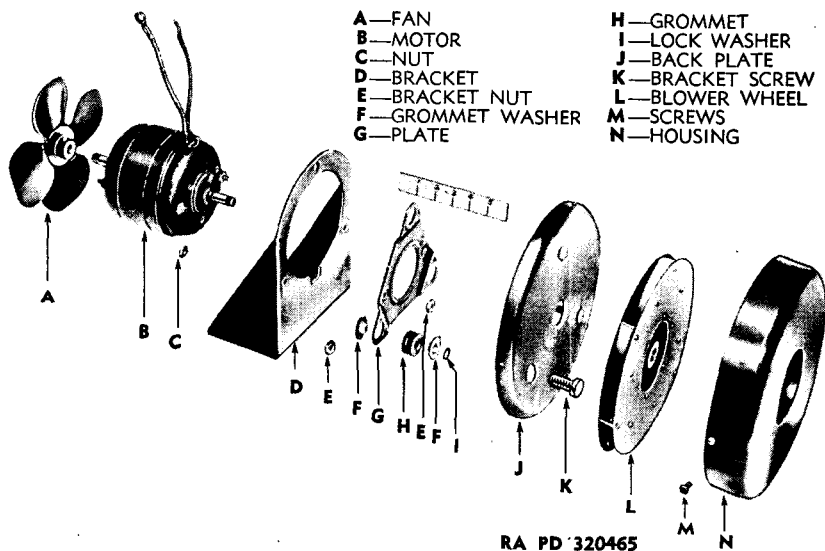

Figure 51 — Blower Assembly Partially Disassembled
b. Heater Tube Assembly (Combustion) (fig. 49). After motor inspection, install motor mounting plate to motor with two nuts (ground wire is connected under one of these). Install motor assembly to base mounting plate, checking with figure 51 to get correct relation of parts. Install blower fan (with open face out) onto motor shaft against mounting plate. Tighten set screw in hub so that fan clears plate. Install blower housing with three screws, so that air outlet horn is at bottom and pointed toward right hand when facing housing. Install remaining fan and tighten set screw. Check assembly to see that motor does not bind, ground wire is connected, and blower fan does not strike housing. Remove igniting plugs and inspect for good operating condition. Mark outer end of brass mixer sleeve, and remove from cast mixer block. Remove four screws, and detach cast mixer block from heater tube. Clean mixer block thoroughly inside and out, using wire to clean all ignition passages and ori-
c. **Fan Blower Assembly** (fig. 51). Remove fan from motor shaft, using socket-head set screw wrench. Remove three screws and remove blower housing. Remove blower fan using socket-head wrench on hub. Remove three screws and relative nuts holding the back plate to mounting bracket, to remove motor from base mounting bracket. Remove triangular motor mounting plate by taking off two motor assembly nuts. Motor case can now be opened for repair or inspection.
b. **Install Blower Assembly** (fig. 51). Install blower assembly into heater base, and secure with four screws and lock washers